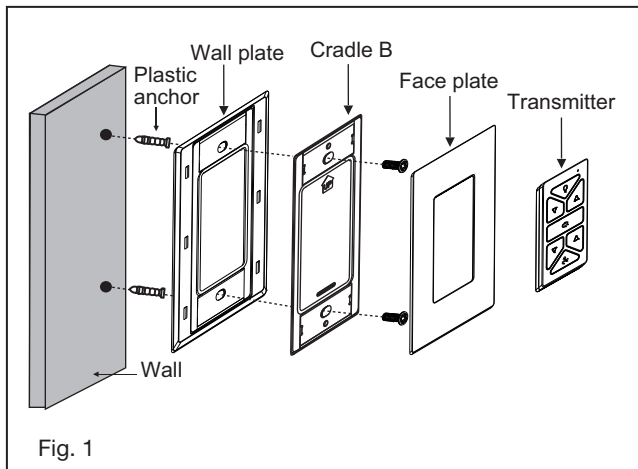

Fig. 1
- 1 Remove ball from downrod by loosening set screw in the side of the ball. Slide ball down and remove ball pin; remove ball. (Fig. 1)
1. Insert the receiver into the ceiling mounting bracket with the flat side of the receiver facing the ceiling. (Fig. 1) For best performance, make sure the Black Antenna and WIFI Antenna, on the end of the receiver, remains extended and not tangled with any of the electrical wires.
- 1 Remove one of the three screws on the mounting hub located on the fan motor. (Fig. 1)
- 2 While holding the LED assembly under your fan, make the polarized plug connections: (Fig. 1)
- 3 Tuck connections neatly into LED assembly, place the LED assembly to the mounting hub with 3 screws provided. (Fig. 1)
- 4 Raise the light cover against the LED assembly and turn clockwise until snug, DO NOT OVERTIGHTEN. (Fig. 1)
- 1 Select a desired location. Use the wall plate to mark the location of the mounting holes. Plastic wall anchors or mounting screws are needed for this application. (Fig. 1)
Remove the panel from the transmitter and then install one 2032 battery (included). You need to use a coin to open or close the battery cover. To prevent damage to transmitter, remove the battery if not use for long periods of time (Fig. 1)